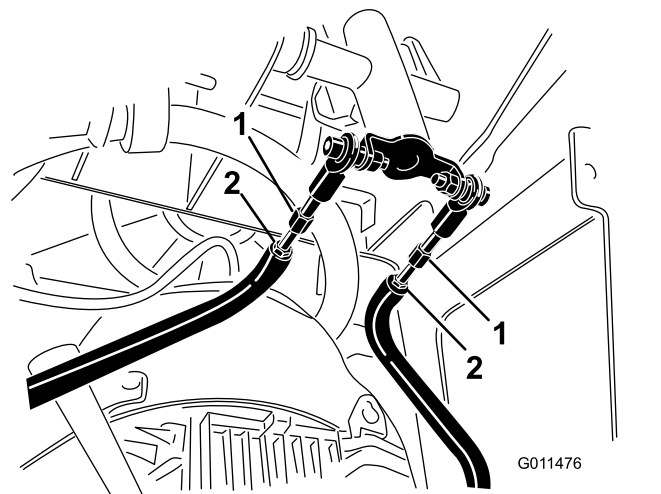

Figure 54
- D. Loosen the jam nuts on the traction rods, under the control panel (Figure 54).